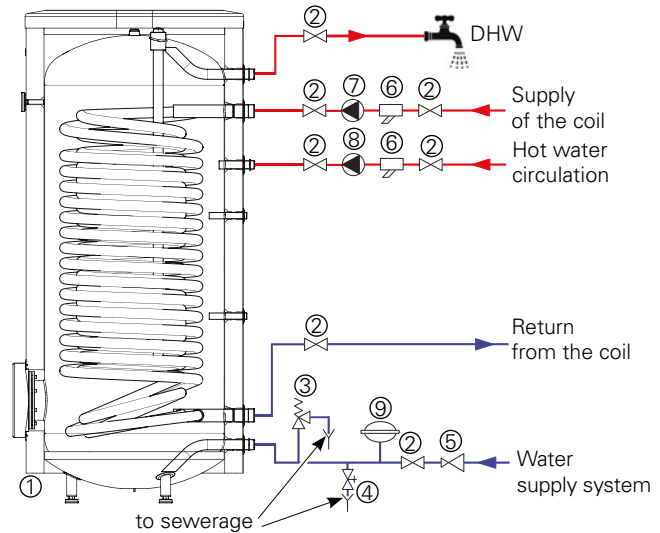

Fig. 7 Installation diagram of the BA-ST 9030/9040/9050-1FEDC storage tank with one coil.
Connect the heating and water supply systems in accordance with the installation diagram (see Fig. 7)
In order to minimize the flow of water from the safety valve associated with the thermal expansion of the liquid, it is advisable to install a suitable expansion vessel at the cold water connection (see Fig. 7 item 9.)
3. Cut-off the hot water supply and drain some water from the tank through the drain valve (see Fig. 7 item 4).
4. Remove the housing cover together with thermal insulation (1).
5. Remove the anode protective conductor (2).
6. Remove the worn magnesium anode (3).